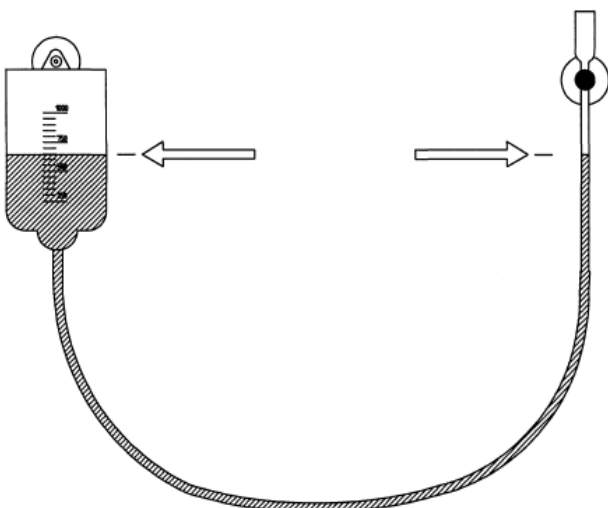

Fig. 2
- Place the clamping holder with the immersion probe on the top right and connect the end of the hose to the probe (Fig. 2).